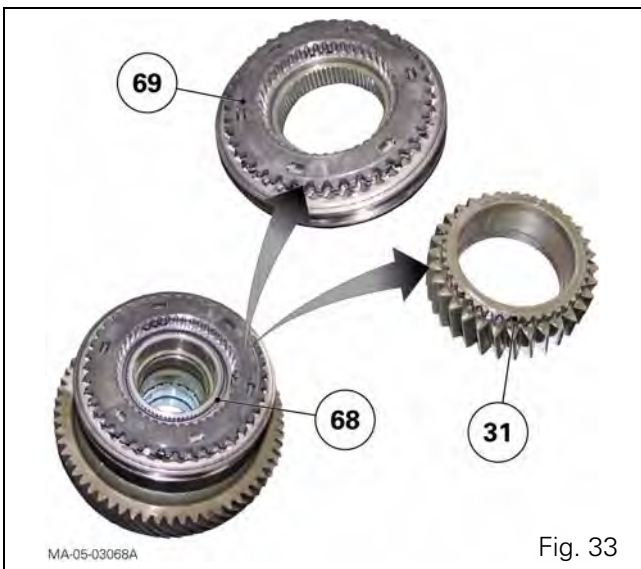

Fig. 33
90. Extract the snap ring (68). Remove the synchroniser (69) and pinion (31) (Fig. 33).